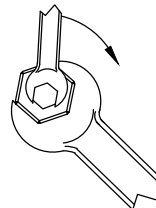
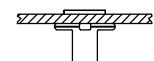

Figure 13: Plusnut tightening.
Figure 14: Fully upset Plusnut.
11. **Tighten** the hex bolt while holding the 1/4" nut (Figure 13). Fully upset Plusnut provides mounting nut to attach the top angle bracket (Figure 14).